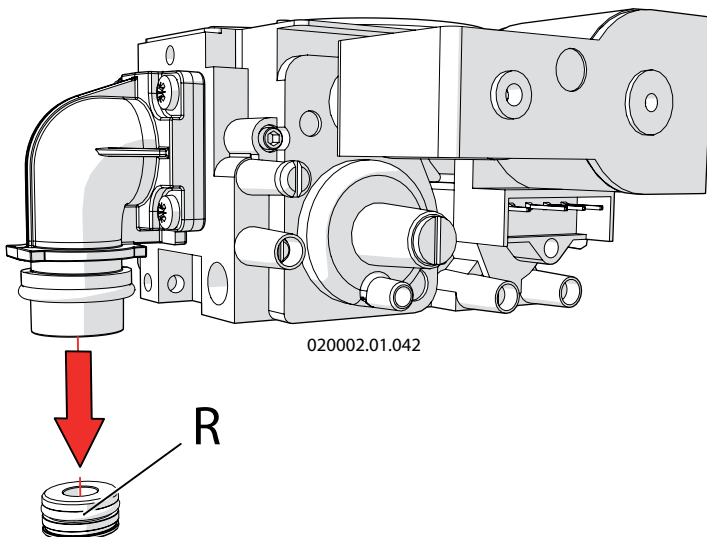

Figure 6-5 - Replacing the gas orifice
17. - replace the gas orifice "R" (see figure 6-5) with an appropriate one according to that stated in figure 6-8 under "Gas orifice diameter";